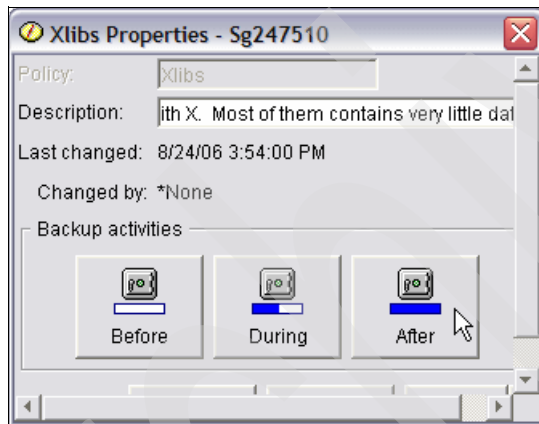

Figure 6-75 Backup Policy Properties - After tab
Click **After**, as shown in Figure 6-75.
8. We are back at the Xlibs Properties panel (see Figure 6-75 on page 196). We are done with all changes are made.